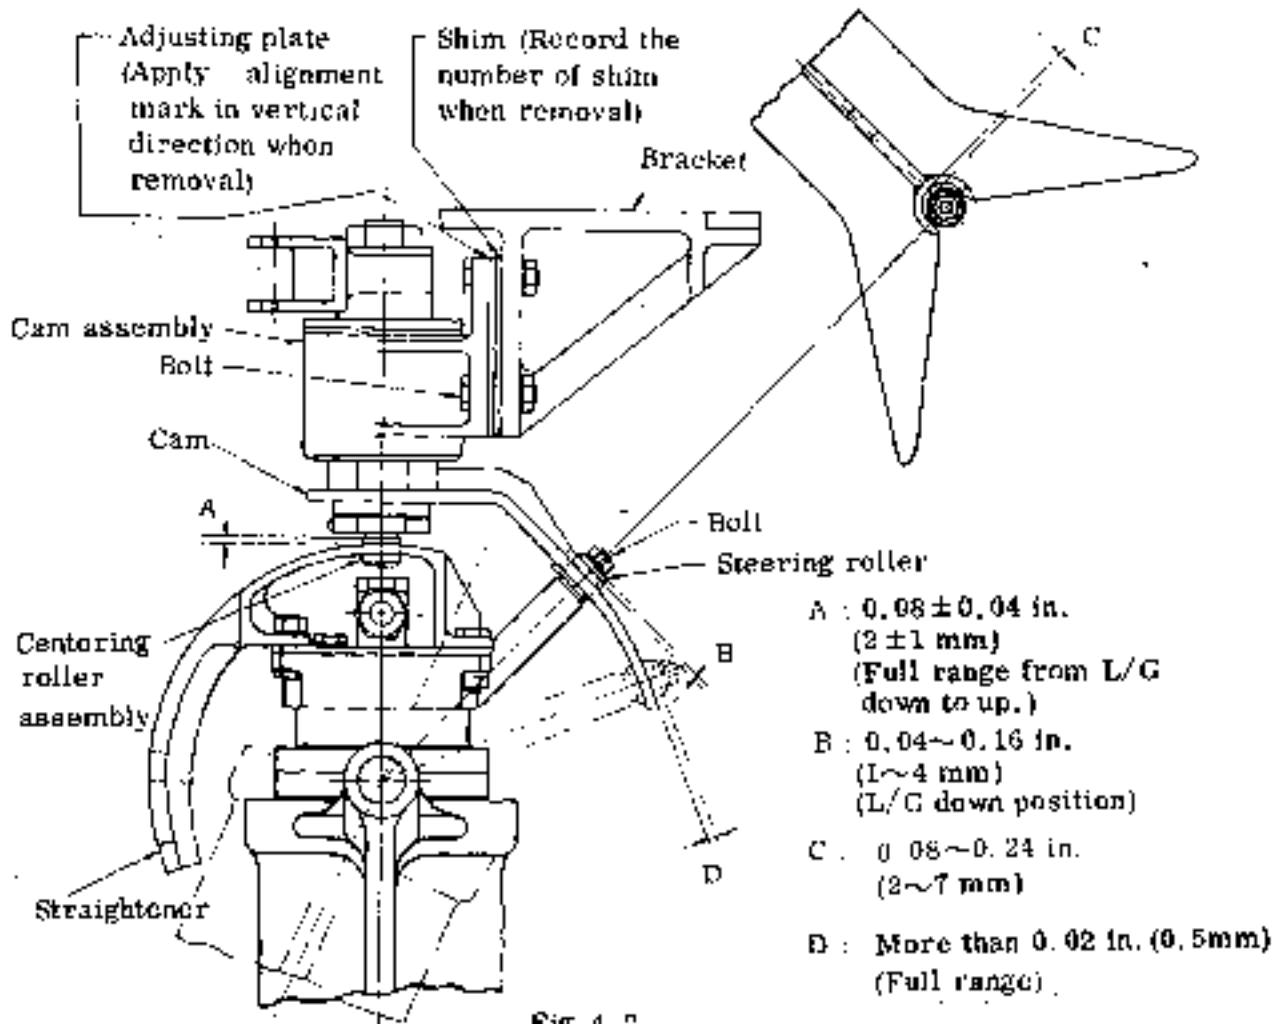

Fig. 4-7
2.6.1.1 CAM (See Fig. 4-7)
2.6.1.2 STRAIGHTENER AND ROLLER (See Fig 4-7)
- (1) Adjust cam assembly so that bite between centering roller and straightener may be dimension A in Fig. 4-7 and also bite between steering roller and cam may be dimension B.
- (2) The steering roller should move smoothly and meet dimension C in Fig. 4-7 while the nose gear is steered to the right and left in down locked position.
- (3) Extend nose gear with the wheel steered to full extent. The dimension D in Fig. 4-7 should be met when the steering roller comes in contact with the cam.